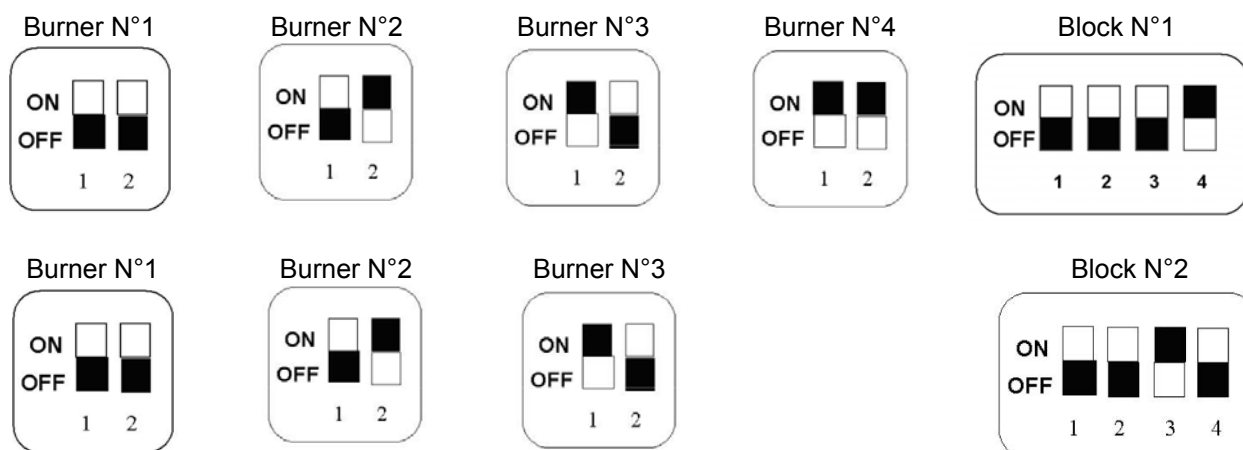

Figure 39
Refer to Table 1 to see the possible combinations of the jumpers J10 that characterize the four slaves (n°1, 2, 3 and 4) of the same block. Table 2, shows the possible combinations of the jumpers (J17). In Table 2 we have the settings for the maximum (15) number of block. In Figure 39 it is shown a configuration with seven units.
In case two blocks are present in an installation having a battery of seven burners (i.e. seven slaves): the first is made of 4 burners and the second is made of 3. As a consequence, two blocks need to be configured, respectively with address 1 and 2 and with relative burners, to the first block with address 1,2,3 and 4, and to the second block with address 1,2 and 3 (see Figure 39)